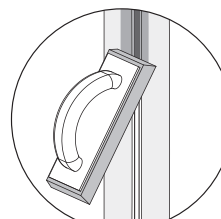

Fig. 17
- 7.4 Apply the grout using the 4-inch side of the rubber applicator to completely fill in the seam cavity, making sure to stay on the masking tape to keep from scratching the panel. **(Fig. 17)**